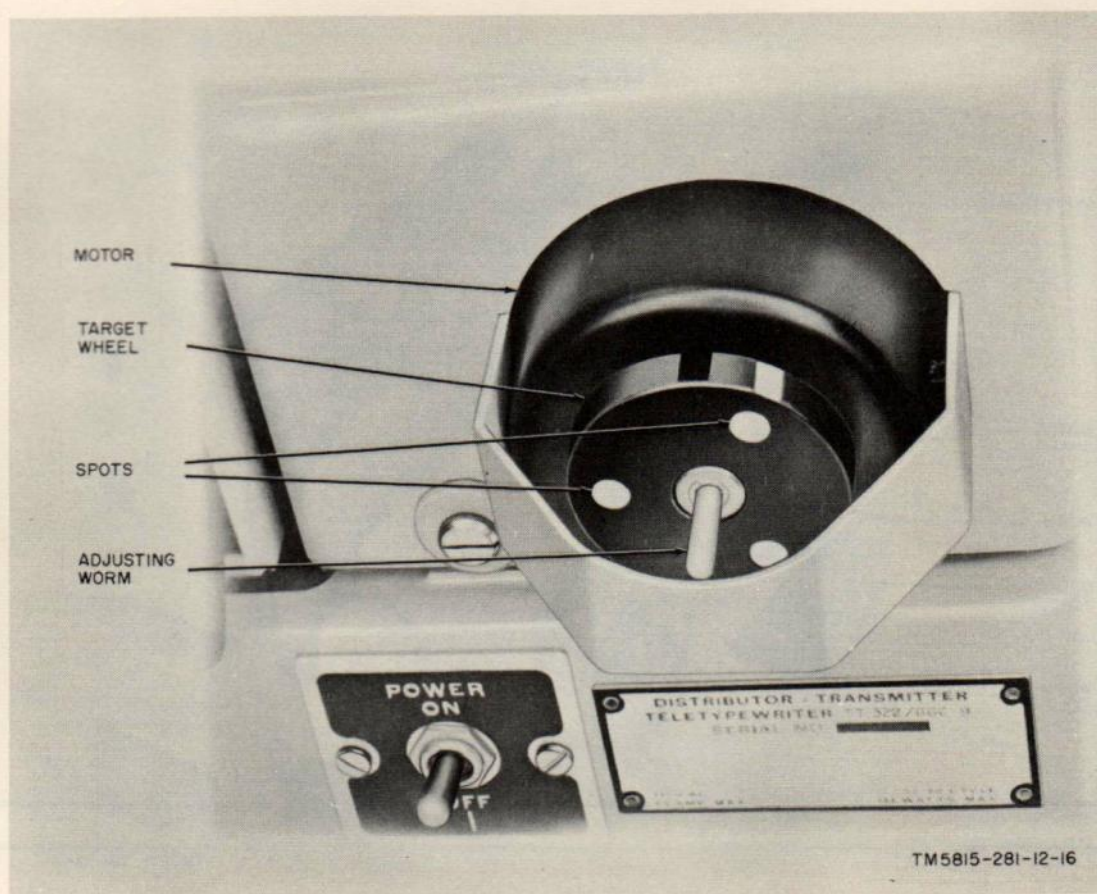

Figure 16. Motor-governor adjustment.
23. Motor Speed Adjustment (fig. 16)